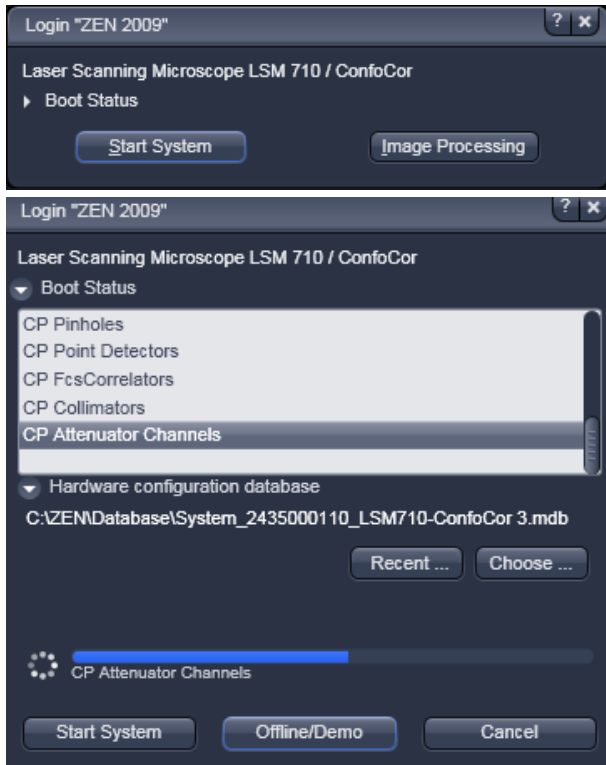

Fig. 4 Starting the ZEN software
- The "Login Zeiss Imaging" switchboard will appear (Fig. 4).